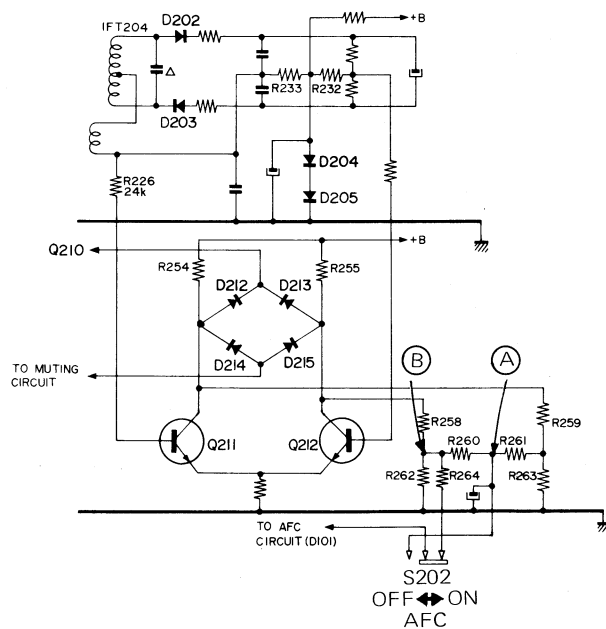

Fig. 1-2
The automatic frequency control employed in the CRF-220 for the FM band is a little different circuitry from ordinary ones as shown in Fig. 1-2. Output signals from the detector diodes are applied to the bases of Q211 and Q212 in the manner of phase-reversal. Hence, the outputs at the collectors of Q211 and Q212 are phase-reversed each other. R260, R261, R262 and R263 in the output circuit of the transistors compose a balanced bridge circuit, and the d-c voltage at the junction of R260 and R261, point (A), is maintained constant at 1.5 volts. This constant 1.5V d-c is applied to the variable-capacitance diode D101 for biasing through the AFC switch S202 in the AFC OFF mode. When the AFC switch is set to the AFC ON position, control bias is taken from the point (B) and the AFC circuit is activated.